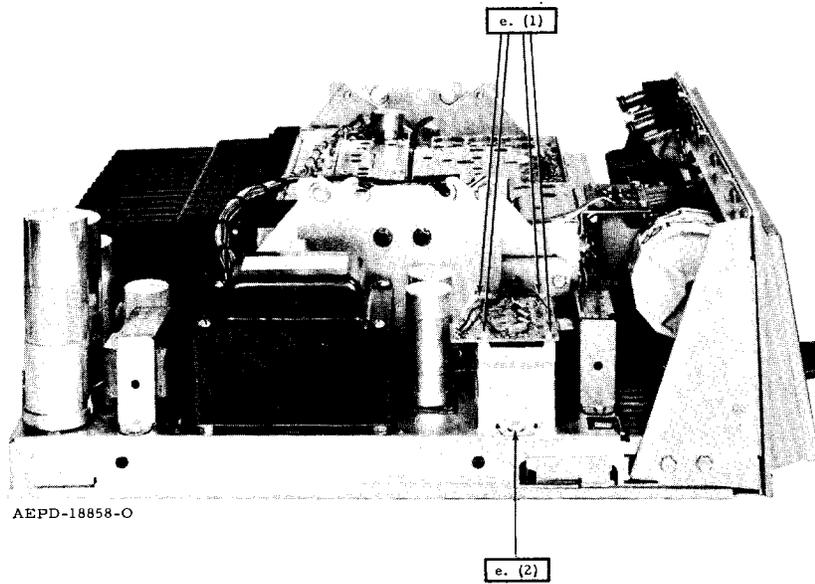

Figure 4.
(1) Remove the channel element board by unscrewing the four screws and lifting the board away from the chassis. See Figure 4 for details.
(2) To remove the transmitter channel elements only, loosen the quarter-turn retaining
stud securing the mounting bracket and lift out the entire assembly. Pull out the desired channel element. See Figure 4 for the location of the retaining stud.